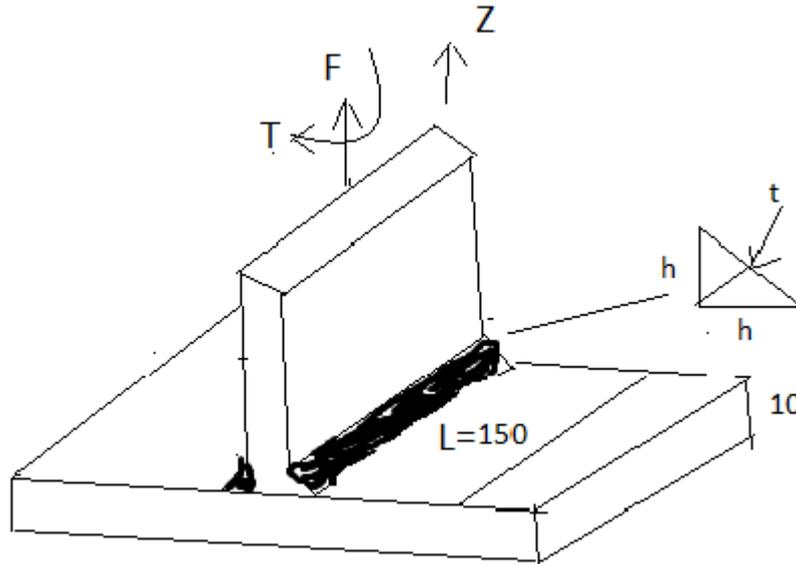

Fig 3c OR All Dimensions are in mm
- (c) A plate 150 mm x 10 mm is welded to another plate as T joint by means of two fillet welds as shown in figure 3c. Determine the weld size to carry a torque of 8 KNm and an axial force of 5 KN. The permissible strength of weld material is 165 MPa. Polar moment of inertia  $J = \frac{tL^3}{12}$  **07**